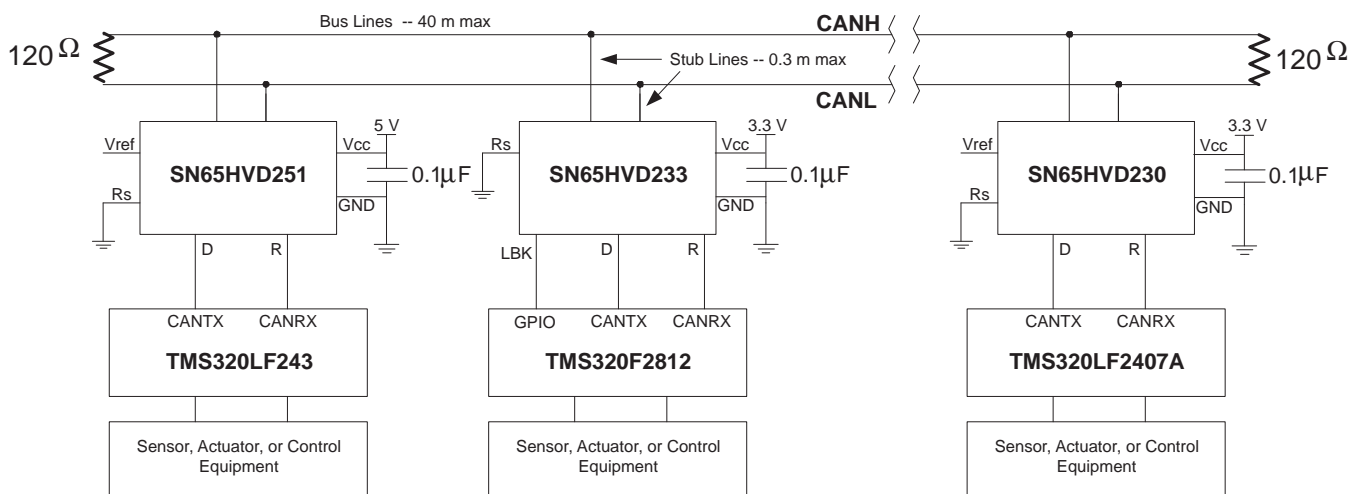

Figure 34. Typical SN65HVD233 Application
The loopback (LBK) function of the SN65HVD233 is enabled with a high-level input to pin 5. This forces the driver into a recessive state and redirects the data (D) input at pin 1 to the received-data (R) output at pin 4. This allows the host controller to input and read back a bit sequence to perform diagnostic routines without disturbing the CAN bus. A typical CAN bus application is displayed in Figure 34.
The High-Speed ISO 11898 Standard specifications are given for a maximum signaling rate of 1 Mbps with a bus length of 40 m and a maximum of 30 nodes. It also recommends a maximum un-terminated stub length of 0.3 m. The cable is specified to be a shielded or unshielded twisted-pair with a 120- $\Omega$  characteristic impedance ( $Z_0$ ). The Standard defines a single line of twisted-pair cable with the network topology as shown in Figure 34. It is terminated at both ends with 120- $\Omega$  resistors, which match the characteristic impedance of the line to prevent signal reflections. According to ISO 11898, placing RL on a node should be avoided because the bus lines lose termination if the node is disconnected from the bus.